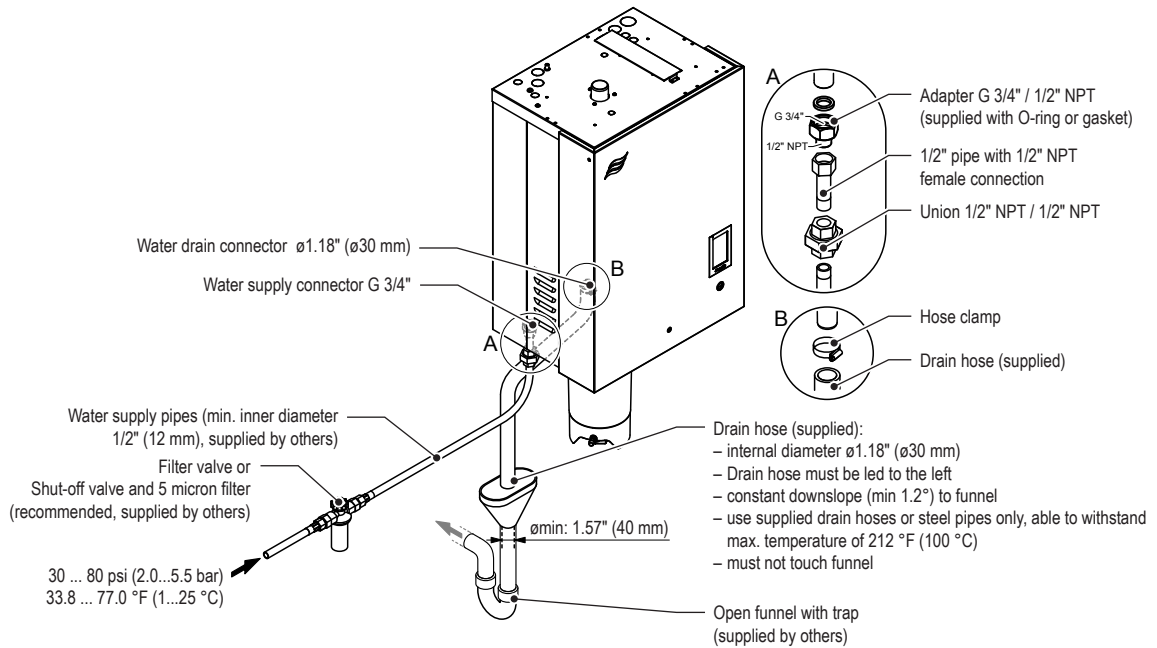
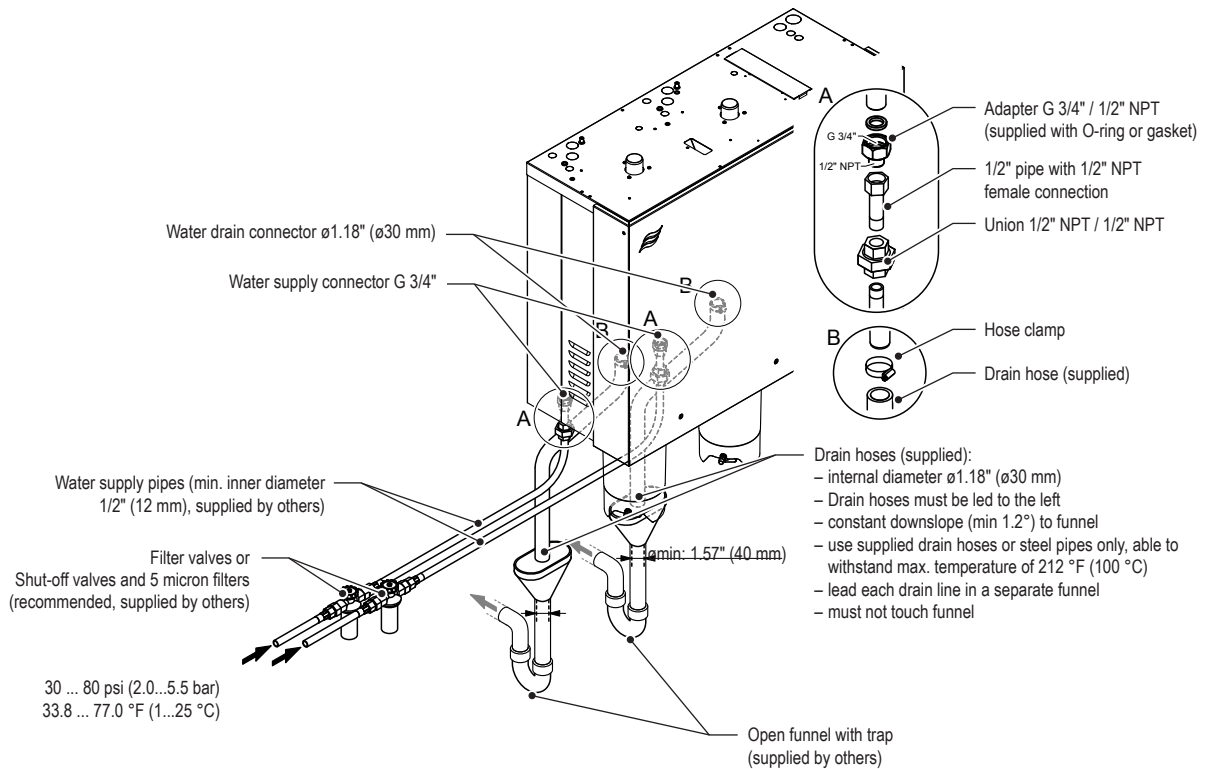
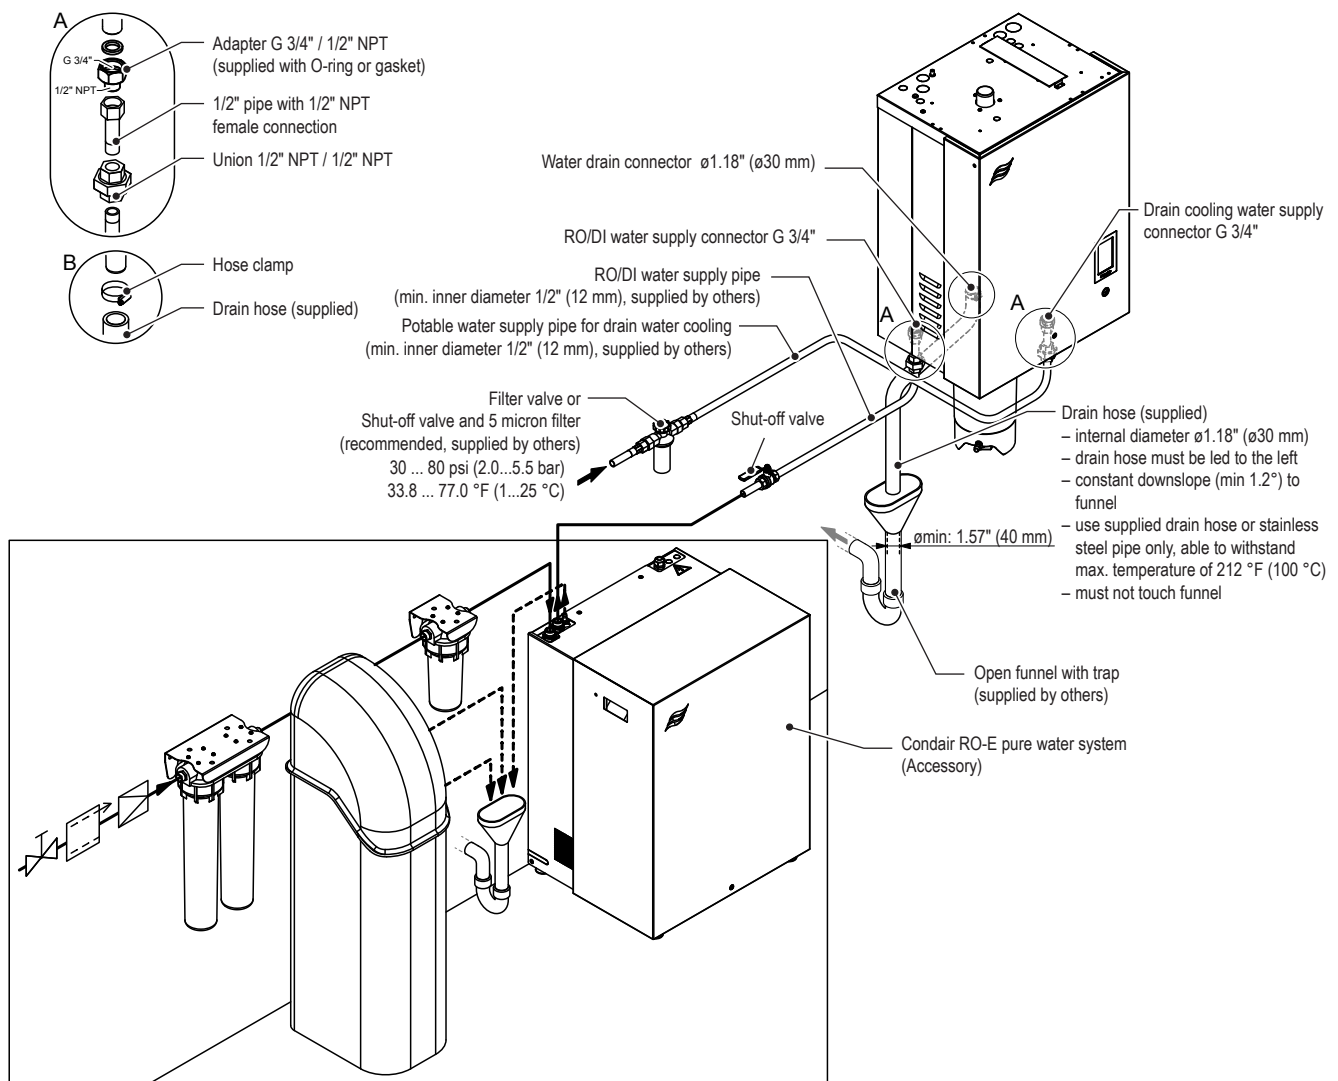
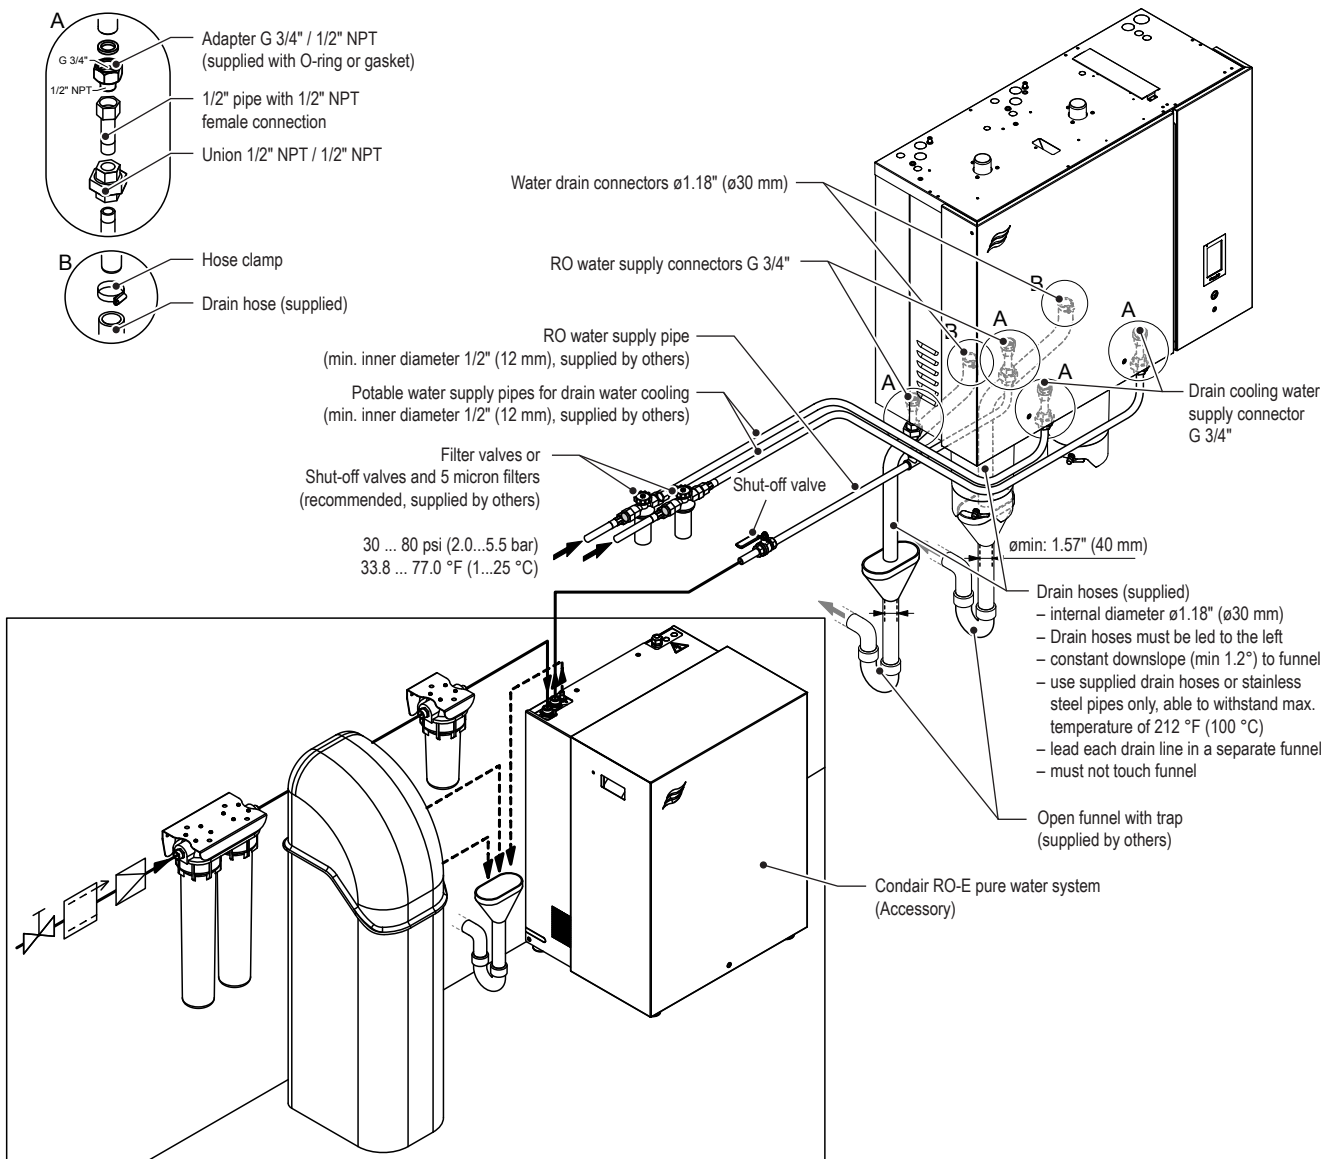

Fig. 17: Overview water installation for single units Small and Medium
Fig. 18: Overview water installation for single units Large
Fig. 19: Overview water installation for single units Small and Medium (with RS-RO option installed)
Fig. 20: Overview water installation for single units Large (with RS-RO option installed)
The water supply is to be carried out according to Fig. 17 and Fig. 18 or Fig. 19 and Fig. 20 and the applicable local regulations for water installations. The indicated connection specifications must be observed.
With the RS-RO option installed the water supply and the drain cooling water supply are to be carried out according to Fig. 19 and Fig. 20 and the applicable local regulations for water installations. The indicated connection specifications must be observed.
- The RO water supply must be connected to the inlet connector(s) according to Fig. 19 and Fig. 20. Use only installation material that is approved for RO or DI water to connect the RO-E pure water system to the Condair RS. All water supply requirements outlined in Section 5.6.3.1 must also be adhered to with the RO or DI water supply.
The separate drain cooling water supply must be connected to the optional drain water cooling inlet valve(s) provided with the RS-RO option according to Fig. 19 and Fig. 20. Please observe the following notes regarding the drain cooling water supply installation.
- Always lead the supplied drain hose from the connector to the left down to the funnel (see Fig. 17).
On large units with two steam cylinders each drain line must be led into a separate funnel with trap (see Fig. 18).
- Has RO water supply been connected to the water inlet connector according to Fig. 19 and Fig. 20 and has installation material been used approved for use with RO water?